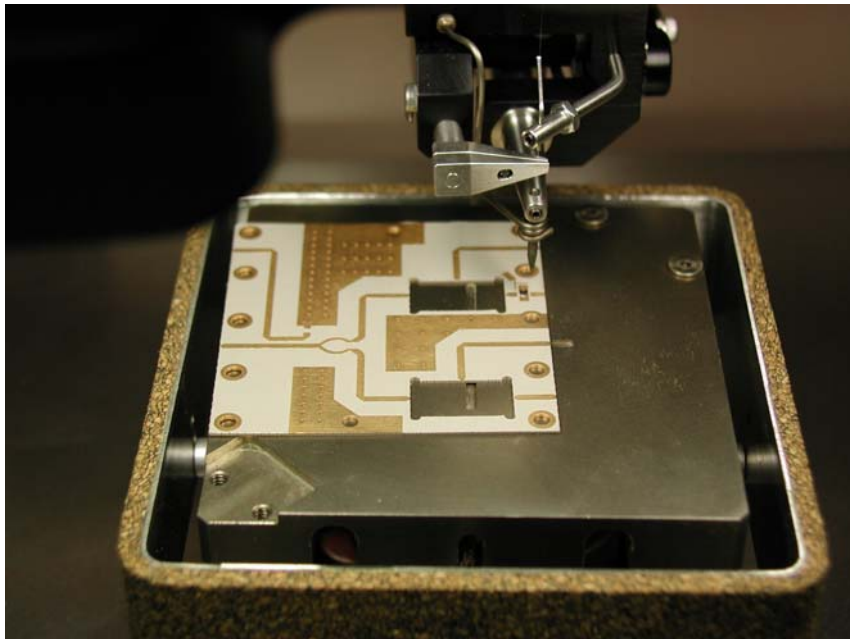

Figure 3: Bonder setup showing positioning for vacuum clamping
4. Wire bond two wires between each RF bond pad and the microstrip traces, and one long wire between the bias pad and bias circuit board trace. To get good clearance on the bias lead make the first bond on the chip pad, then lift the tool high before traversing to the second bond on the circuit board. Figure 3 below shows the board orientation for reasonable vacuum clamping, although the board is not held very securely.